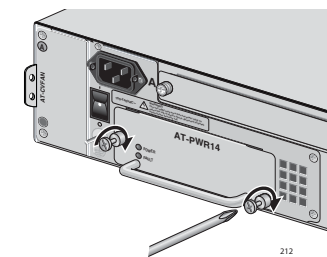

Figure 5. Securing the AT-PWR14 Module
7. Secure the AT-PWR14 module to the AT-CV5000 chassis by using a Phillips screwdriver to tighten the captive screws, as shown in Figure 5.